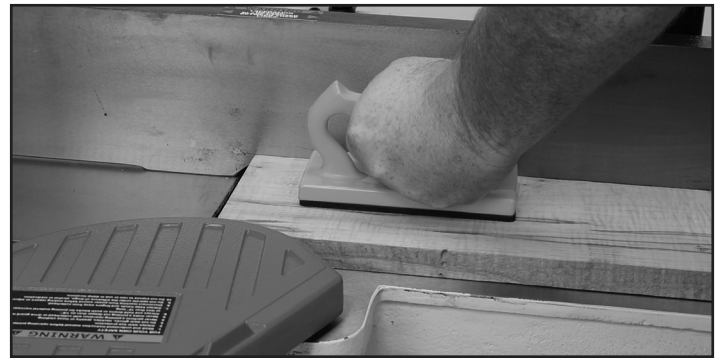

FIG. 21
6. Turn the machine on and place the workpiece on the infeed table. Feed the workpiece toward the cutterhead, FIG. 21, exerting downward pressure until the workpiece clears the cutterhead on the outfeed table side. Always keep your hands away from the cutterhead to avoid any accidents.